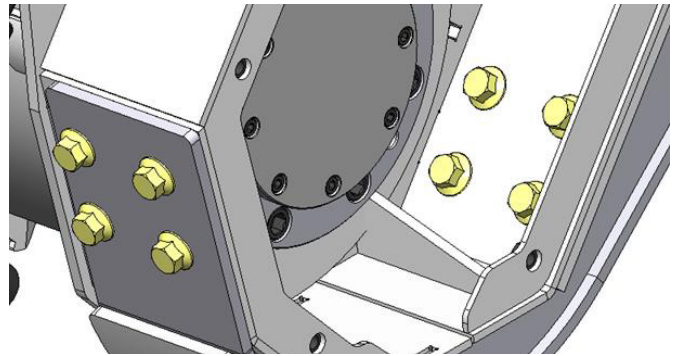

Figure 19
- Remove the skid shoes' bolt and nut fasteners. See Figure 19.